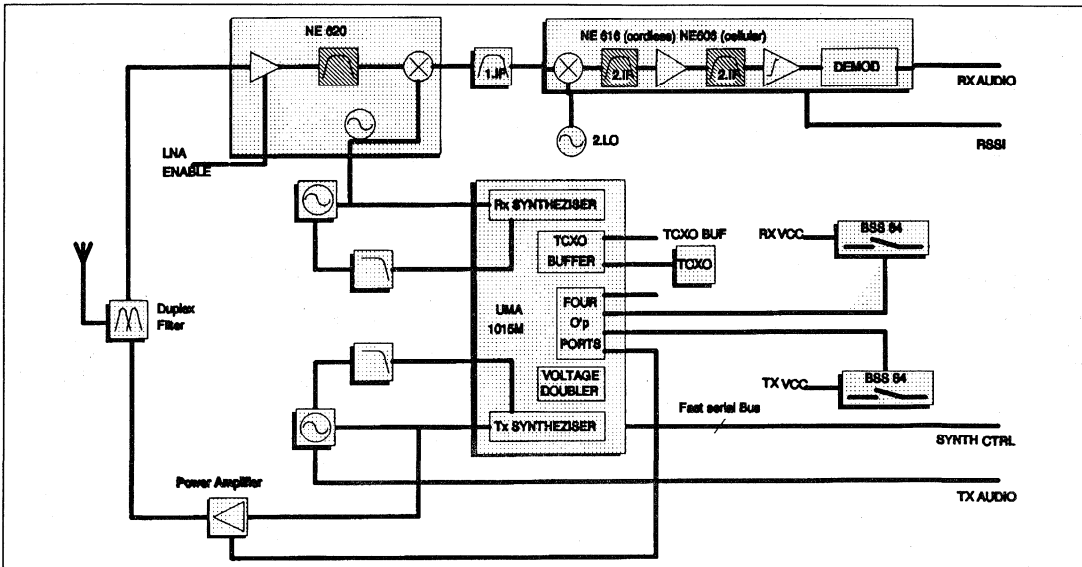

Figure 2. UMA1015M Dual Synthesizer in Typical Analog Transceiver Architecture
Figure 2 demonstrates the UMA1015M in an architecture commonly used in analog battery powered telecommunication equipment. The first local oscillator (LO) in the receive path and the carrier oscillator in the transmitter use PLL frequency synthesizers.